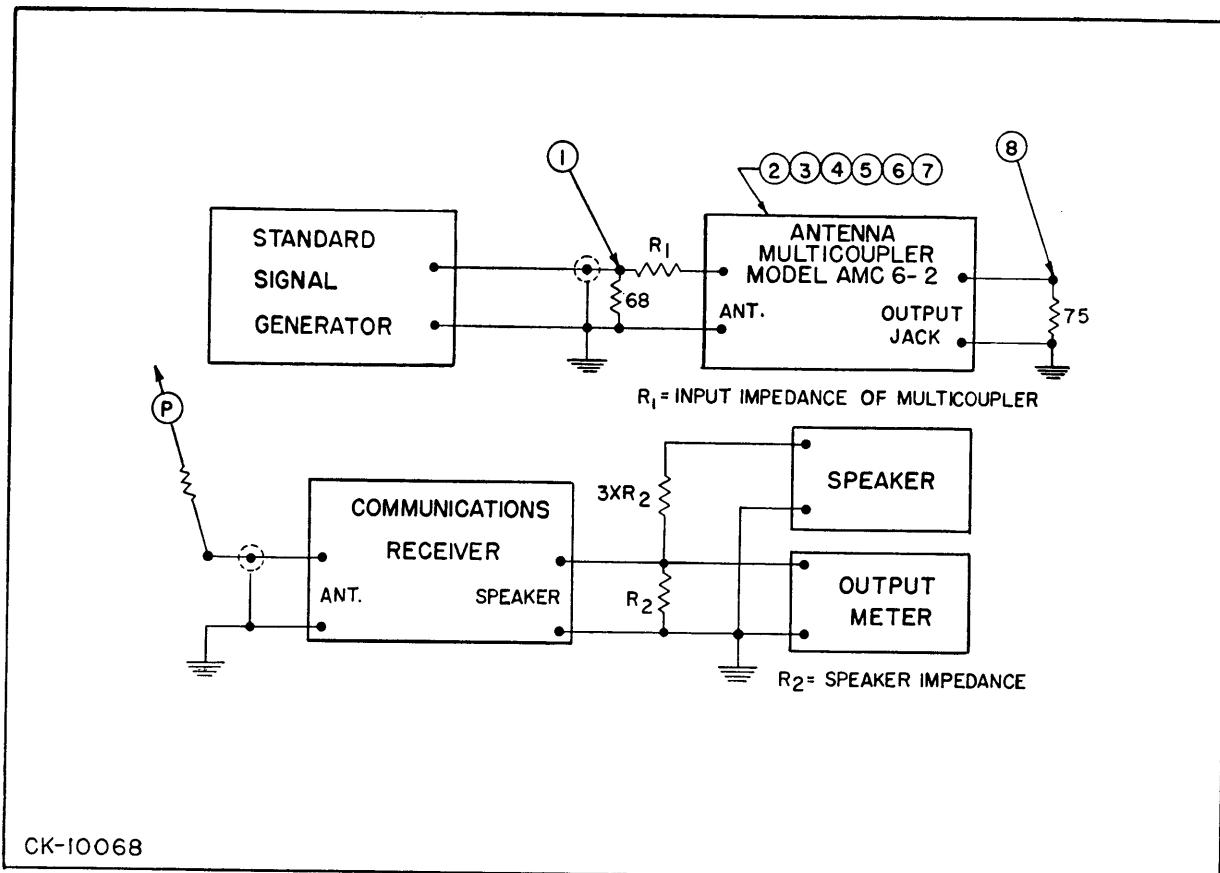

Figure 5-1. TEST SET UP FOR GAIN MEASUREMENTS
- c. The spurious signal amplitude to be expected from two signals applied at the input of the multicoupler is shown in Figure 6-2. Every precaution has been taken in the design of the instrument to minimize intermodulation effects in the receiving system. At the low end of the band (where high level signals from local broadcast stations are likely) filter FX101 becomes effective. Sufficient attenuation is provided by the filter so that signals are reduced to a level where they are ineffective in the production of spurious signals. The filter may be switched out or in as desired. In some instances the location of the receiving station is such that excessive signals from a powerful local station may cause serious intermodulation effects in the receiving system. This, however, should not be troublesome for signals under 10,000 microvolts. Should it be found that signals of a higher order than 10,000 microvolts are causing serious intermodulation effects, additional filters may be inserted in the antenna transmission line. A suggested method of locating the frequency or determining the amplitude of interfering signals can be obtained by referring to the test set-up in Figure 5-1. First, disconnect the multicoupler from the circuit and connect the antenna lead together with test probe (P) to test point (2); set the signal generator to the unmodulated condition and turn the attenuator to zero. Tune the receiver until a strong signal is located and turn on the BFO switch; adjust the gain controls for a convenient reading on the output meter using the highest signal obtained on either side of zero beat as a reference voltage. Move the tuning dial until the signal disappears; adjust the frequency and attenuator controls of the signal generator until a voltage comparable with the reference voltage is obtained on the output meter. The signal generator setting in microvolts indicates the strength of the signal pick-up by the antenna while the first tuning dial position of the receiver indicates its frequency.
c. Faults which are difficult to locate by other means may be isolated by the test set up shown in Figure 5-1. The signal generator should be set for a modulated condition of 1000 cycles per second and a modulation depth of 30 per cent. Next set up the receiver gain controls for use as a fixed level detector. To do this connect test probe (P) to test point (3); set the signal generator attenuator to 100  $\mu$ V; turn the receiver audio gain control up, and with the BFO off adjust the manual RF gain control to a minimum value for a convenient voltage reading on the output meter. Connect test probe (P) to other test points and adjust ONLY the signal generator attenuator to obtain the same output meter reading as before. Record the attenuator settings in a table similar to Table 5-2. Ratios between the microvolt settings in this table can be used to locate quickly any circuit fault in the multicoupler.